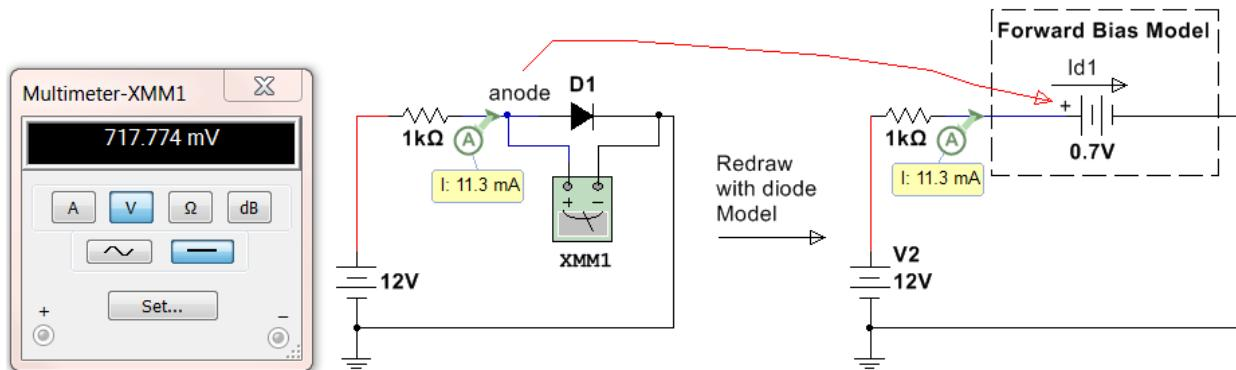

Figure 6.4: Circuit for Example 6.1
Step 2) The circuit on the right side of Figure 6.4 shows the forward bias model replacing the diode. **The node where the anode was connected is connected to the + side of the battery.** 0.7 V is used for the battery voltage because the problem stated it is a silicone diode. Next, calculate the current,  $I_{D1}$ .
- $I_{D1} = I_R = \Delta V / R = (12 - 0.7) / 1k\Omega = 11.3 \text{ mA}$  (This is verified in Multisim in Figure 6.4)
Step 2) The circuit on the right side of Figure 6.4 shows the reverse bias model. **Notice the + side of the Multimeter that is measuring  $V_{D2}$  is on the same node as the anode was connected.** To solve for  $V_{D2}$  there are two possible methods.